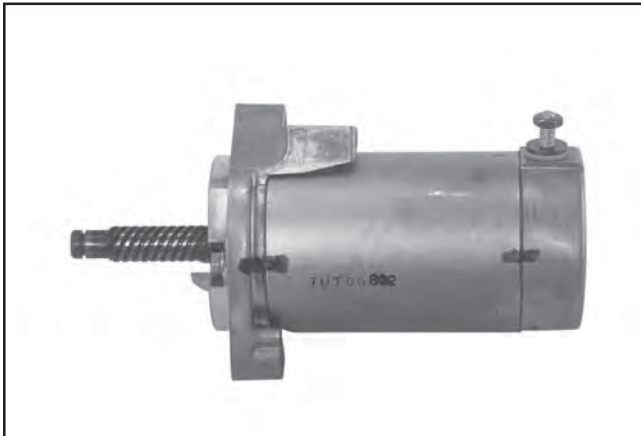

Figure 8-40. Match Marks for Reassembly.
3. Scribe or mark a small line from the starter frame to each end cap to serve as match marks for reassembly later. See Figure 8-40.